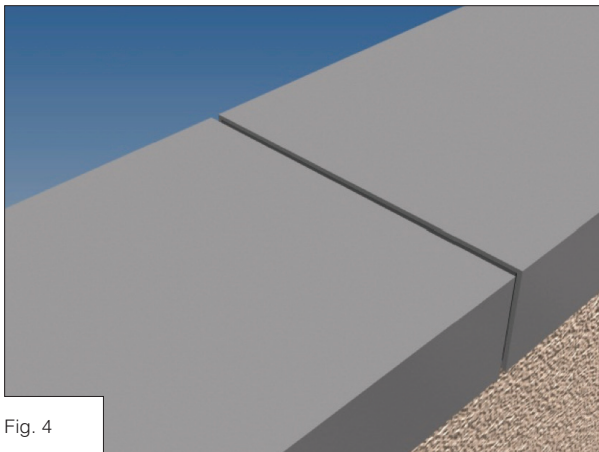

Fig. 4
4. Before fitting next coping section, repeat steps 1 and 2, then offer coping panel into position ensuring a 3mm expansion gap is left between abutting ends Fig. 4. Fix coping panel into position as step 3.